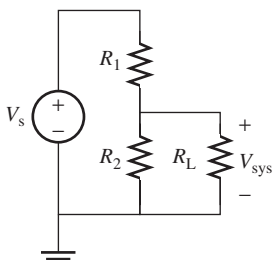

FIGURE P3.26 Circuit for Problem 3.26.
- 3.26** (H) Assume that you need to power a system from a V_s power supply, but the system requires a voltage of V_{sys} . Use voltage division as shown in Figure P3.26, express R_1 as a function of R_2 , V_s , V_{sys} , and R_L . ($V_{\text{sys}} < V_s$)